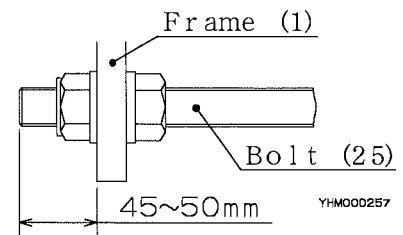

Fig. 4
- 9) The position of Bolt (25) have been adjusted before shipment as shown in Figure 4.
Readjust the positin as shown in Figure 4 if Bolt (25) was moved during adjustment.